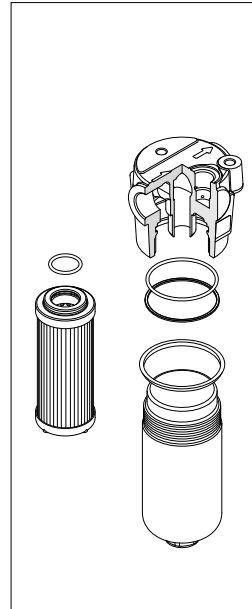

fig. 19
- (Fig. 19) Fit #1: the O-ring and #2: the anti-extrusion ring in the head groove, insert the O-ring in the filter element cap